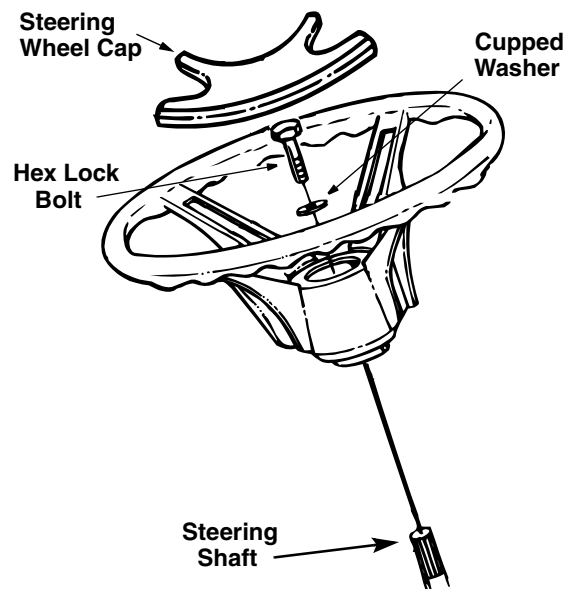

Figure 3
3. Place the washer with the cupped side down over the steering shaft. Secure with hex lock bolt. See Figure 3.